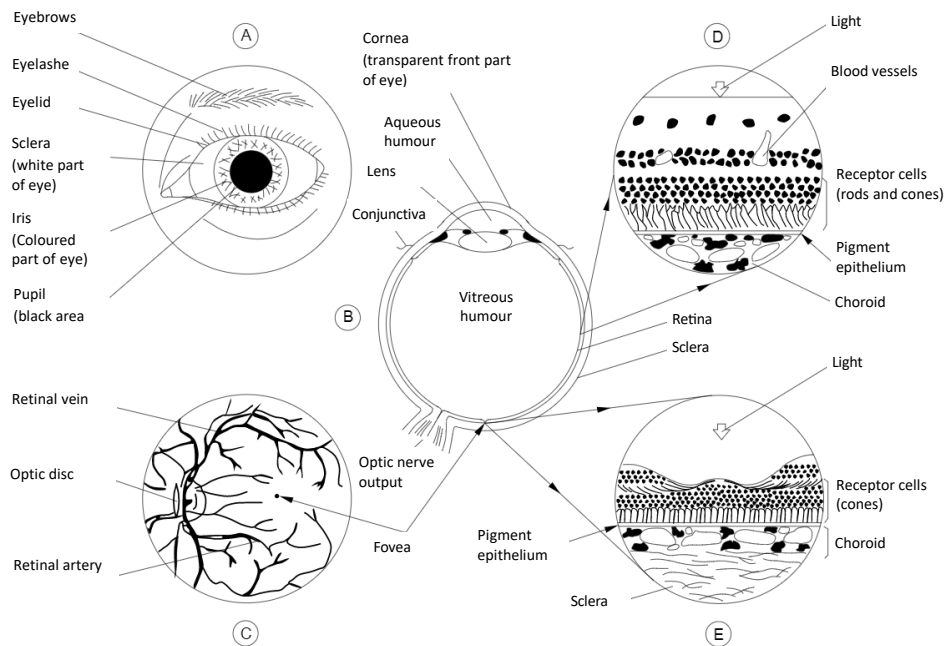

Fig. 4-3 – Physiology of the human eye
Section (A) of Fig. 4-3 displays the external structure of a left eye.
Section (D) displays the structure of the retina as seen in the section of its surface shown in Fig. 4-3 (B), but enlarged a few hundred times from its natural size. The retina consists of a series of nervous cell layers which cover the photosensitive cells: the cones and rods; in other words, light arriving on the retinal surface must move through the nervous cell layers before reaching the photosensitive cells. Beneath the layer of cones and rods is a layer known as pigment epithelium which contains a black-darkish melanin pigment; under this is a thin layer of blood vessels, the choriocapillaris. The last absorbent layer is the choroid, which contains both pigment cells and blood vessels.
Fig. 4-3 features a brief description of the anatomy of the eye. The eye is particularly well-suited to receiving and transmitting optical radiation.